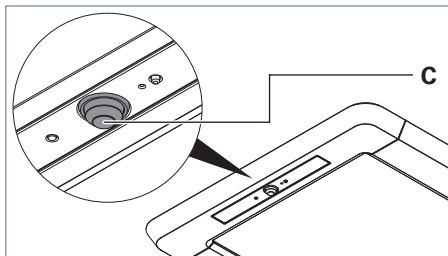
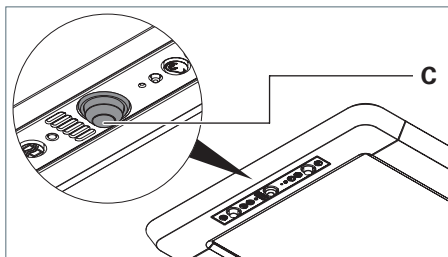

Fig. 37: PIR sensor, version R.
Fig. 38: PIR sensor, version RX.
- Set the ball head **C** of the PIR sensor to the required direction, see Fig. 37 and see Fig. 38.